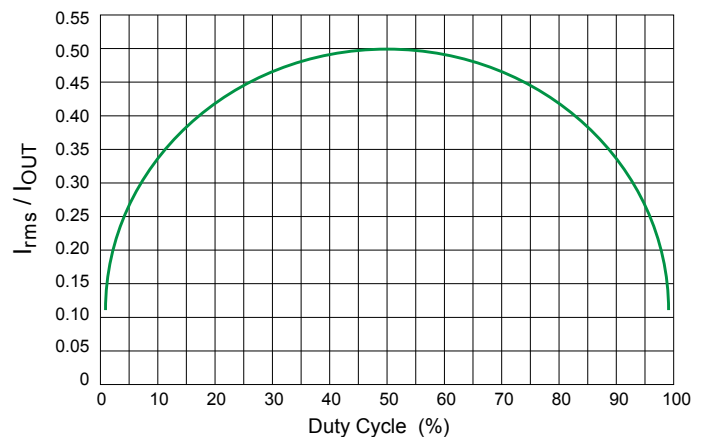

Figure 18: Input Capacitor Ripple versus Duty Cycle
Figure 18 shows the normalized input capacitor rms current versus duty cycle. To use this graph, simply find the operational duty cycle (D) on the x-axis and determine the input/output current multiplier on the y-axis. For example, at a 20% duty cycle, the input/output current multiplier is 0.40. Therefore, if the regulator is delivering 2.5 A of steady-state load current, the input capacitor(s) must support  $0.40 \times 2.5$  A, or 1.0 Arms.